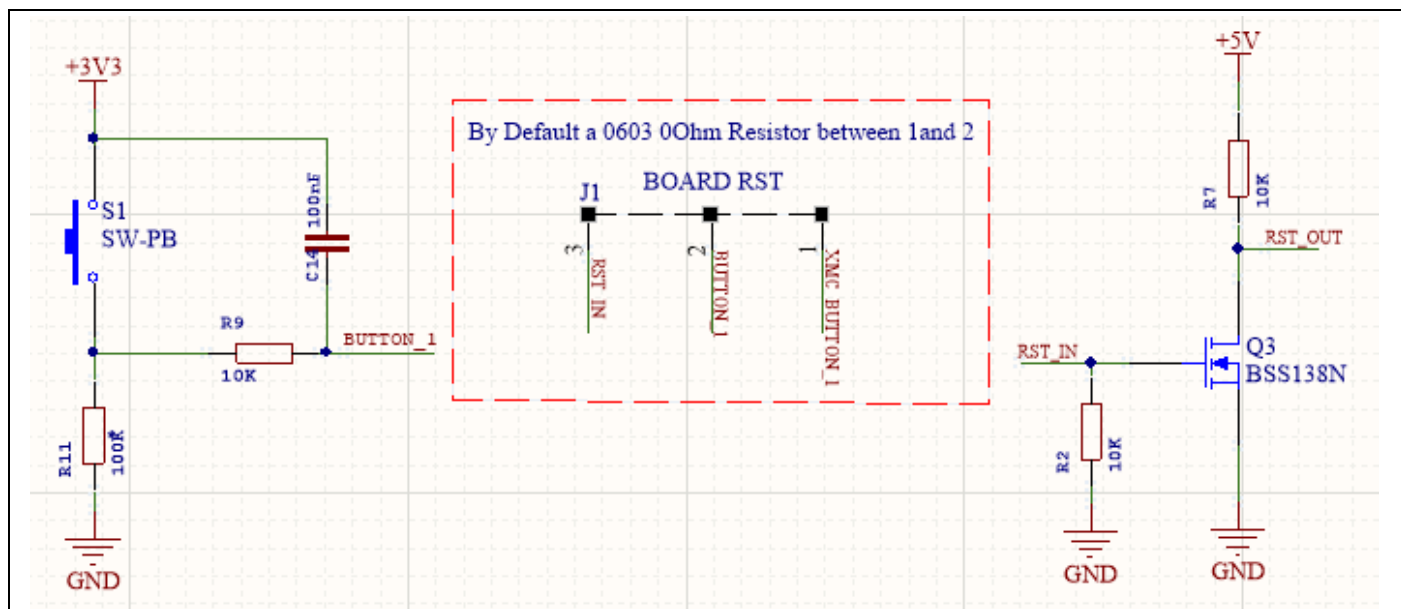

Figure 4 **Reset**
| Figure 4 | Reset | 8 |
- Configure button S1 to serve as a Reset Button using the IFX1763LD V33 enable capability. To enable this feature J1 must be changed to position 3-2 as shown in Figure 4.